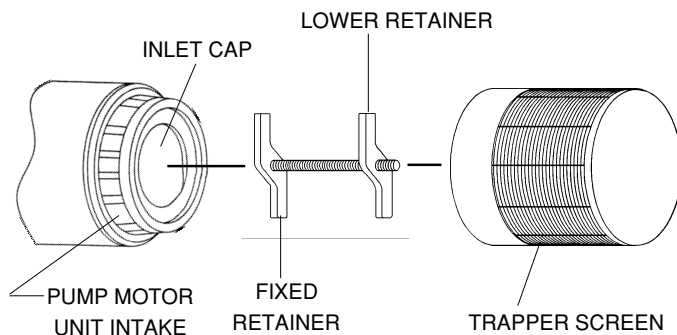

Figure 1
STEP 1: Remove inlet cap from the center of the pump intake at the end of the UMP Unit. (See Figure 1)